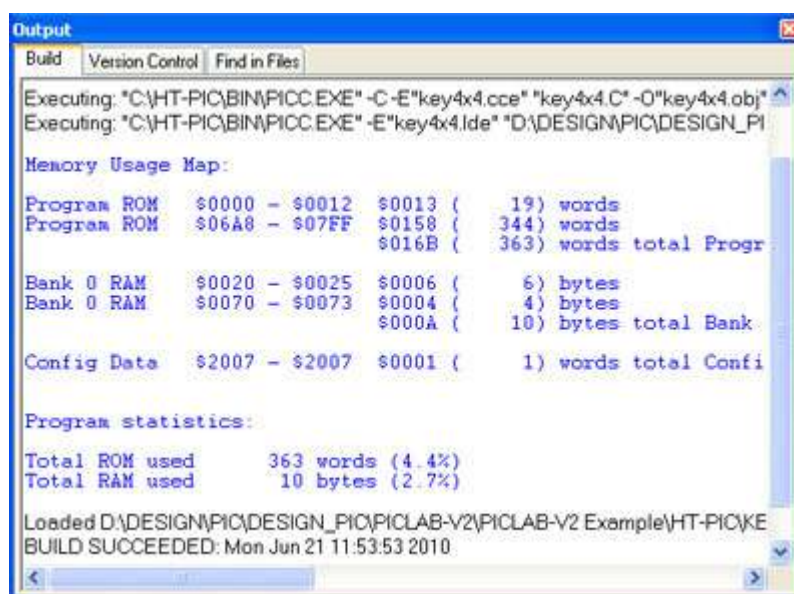

Figure 5-2 Source compiling results
- 3) Implement the menu command Project → Build ALL or the icon  in the tool bar to compile the source code. The compiled results will be shown as Figure 5-2. We can see from the figure as "BUILD SUCCEEDED", which indicates that the compiling is successful and it has created a KEY4x4.HEX file under the directory of the project (only compiling can it create such a file).
If there are ERROR[num] or WRNING[num] in the compiling results (num means the error or warning number), you may locate the cursor to the position that cause such errors or warnings by double clicking the message immerged, and correct the source code and re-compile it repeatedly until it shows the result as in Figure 5-2.